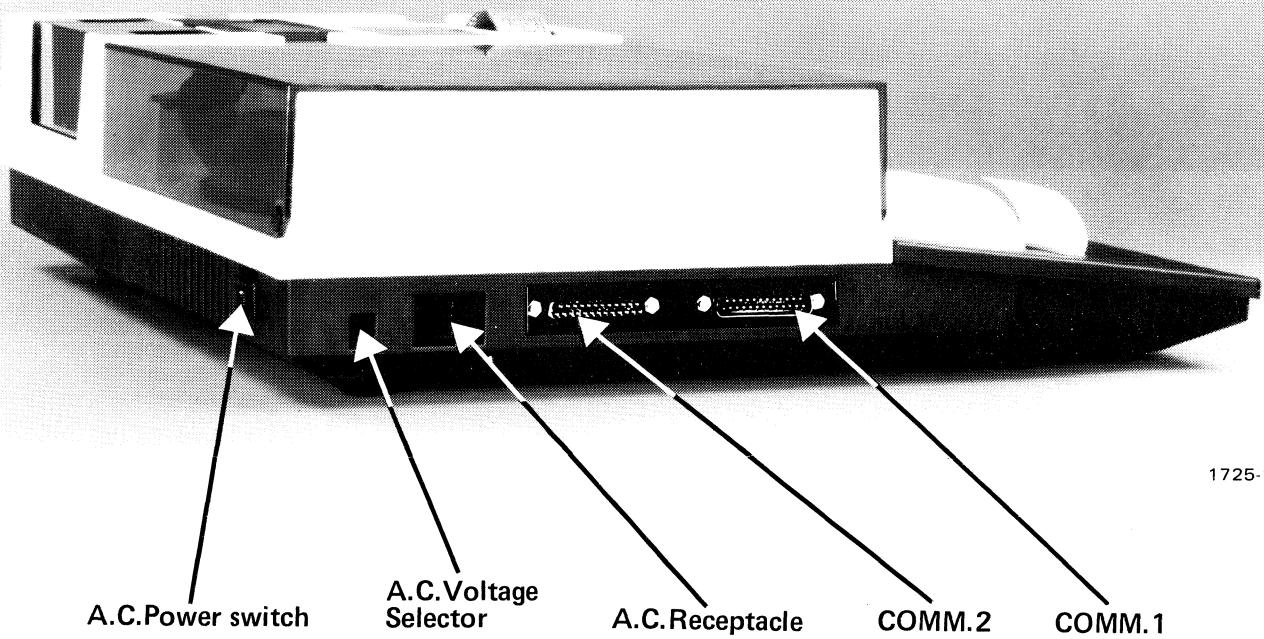

Fig. 1.4 Signal connectors and A.C. power
A.C. Supply (Selectable; for switch location, see Fig. 1.4.)
Power Switch (Fig. 1.4)